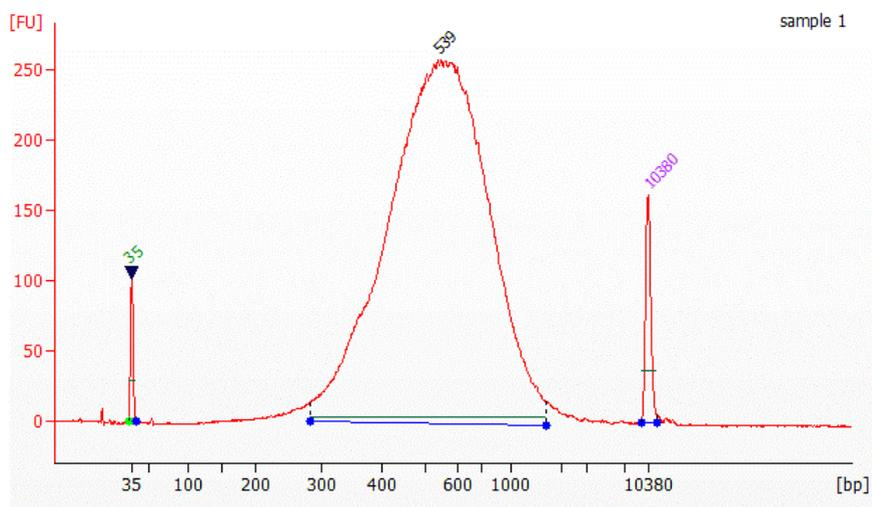

Figure 2 Agilent 2100 Bioanalyzer results of 1000 ng gDNA#dissolved in pH8.0 1X TE buffer#double size selection fragmentation product#30 °C,11 min#
**Tips** For the demo test, it is recommended to take 1  $\mu\text{L}$  of eluted product for Agilent 2100 High Sensitivity test (Figure 2), to ensure that the peak size of the selected fragments is approximately 450 bp to 600 bp. It should be noted that the peak size of the sequenced library is normally smaller than the peak size shown in the Agilent 2100 Bioanalyzer.